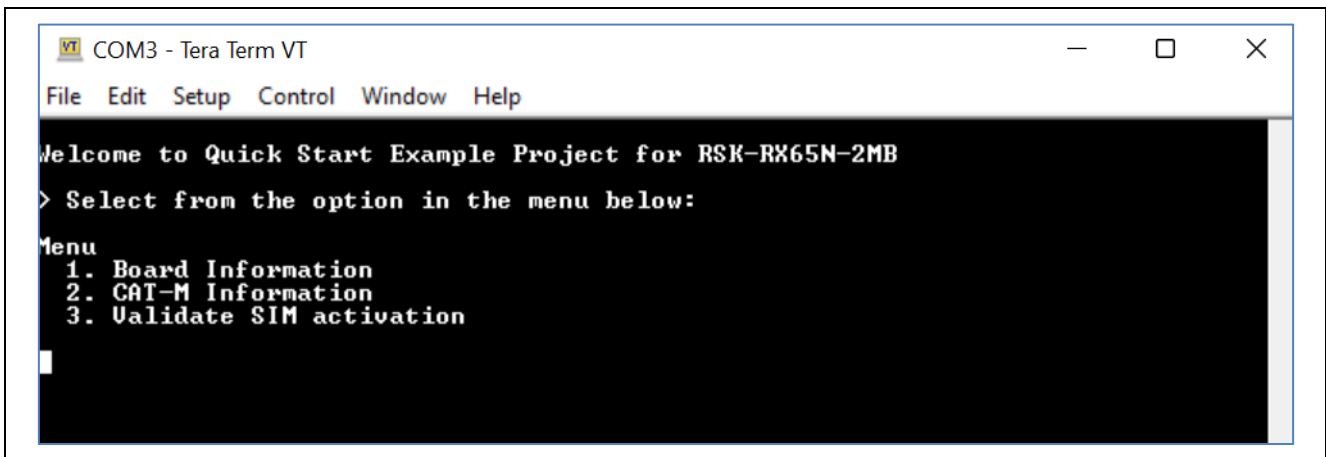

Figure 9. Welcome and Main Menu
- Complete the connection. The ‘Welcome and Main Menu’ screen will be displayed as shown in Figure 9.